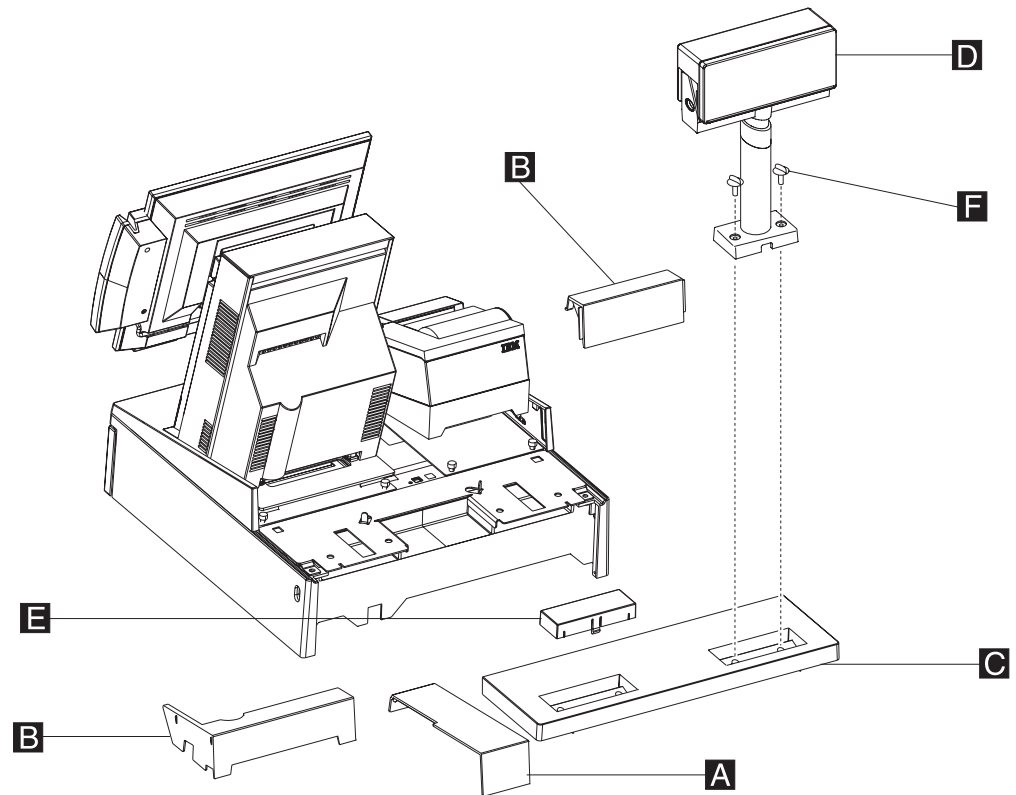

Figure 52. Attaching filler panels and the rear modesty cover
Note: If you are installing a distributed-character display, route the cable through the unattached rear modesty panel **C** in Figure 52 on page 83.
12. See Figure 52 on page 83. Install the filler panels after you route all the cables to your system. Note that filler panel **A** locks filler panels **B** onto the tray. Install the filler panels after you have routed all of the cables.